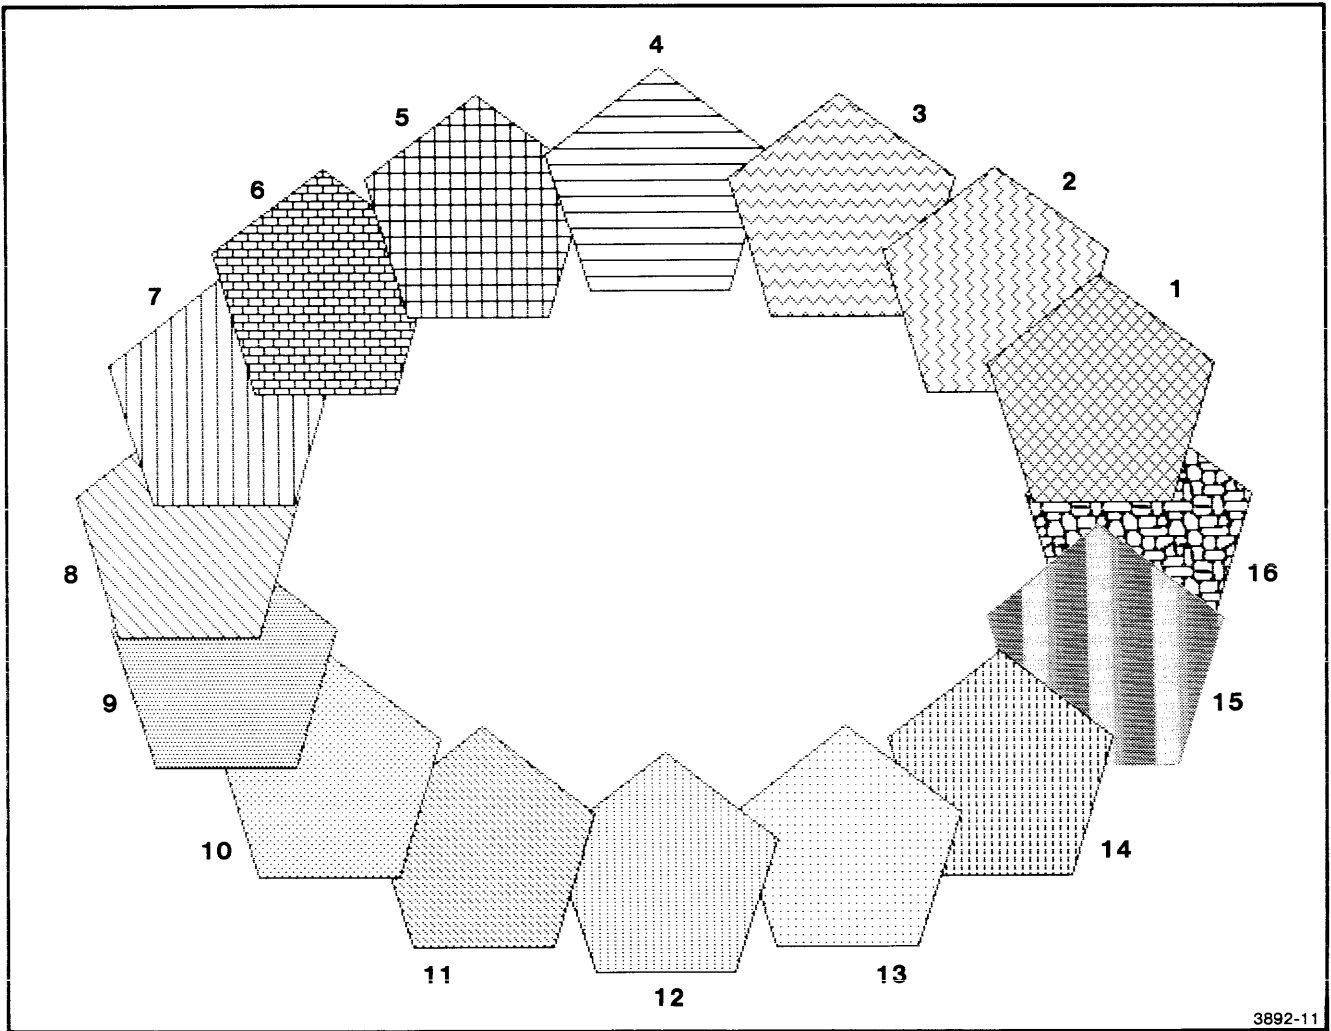

Figure 7-11. Standard Fill Patterns.
- Patterns 1 through 16 are pre-defined; Figure 7-11 shows examples of these fill patterns. Patterns 1 through 16 may be redefined by the user; but if these patterns are deleted (redefined with a height of zero), they will not revert back to the predefined patterns until the terminal is turned off or reset.